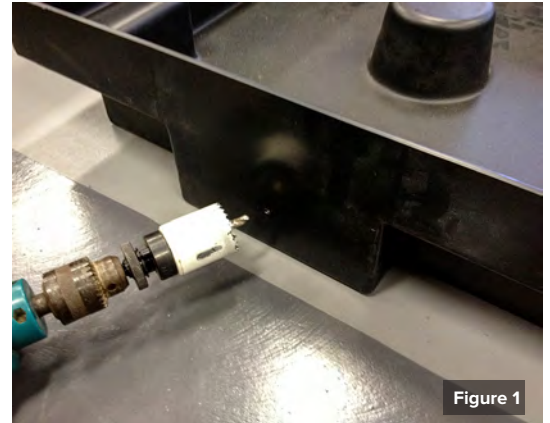

Figure 1
- Locate the two drill point dimples on the outside side walls of each bund, approximately 300mm in from each end and 40mm up from the base (Fig 1). Using a 35mm hole saw, place the drill point in the centre of one of the dimples and drill through the bund wall.